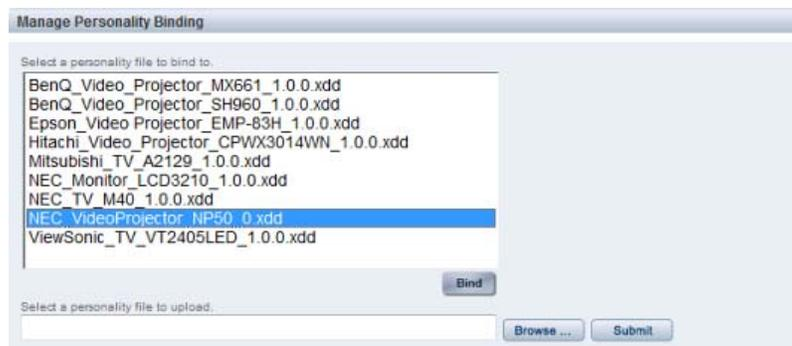

FIG. 119 Dynamic Binding - Device Details (xdd file submitted)
3. Click **Submit** to upload the file to the master, and refresh the *Device Personality* page. The uploaded file will then appear in the list of personality files, under Manage Personality Binding (FIG. 119):